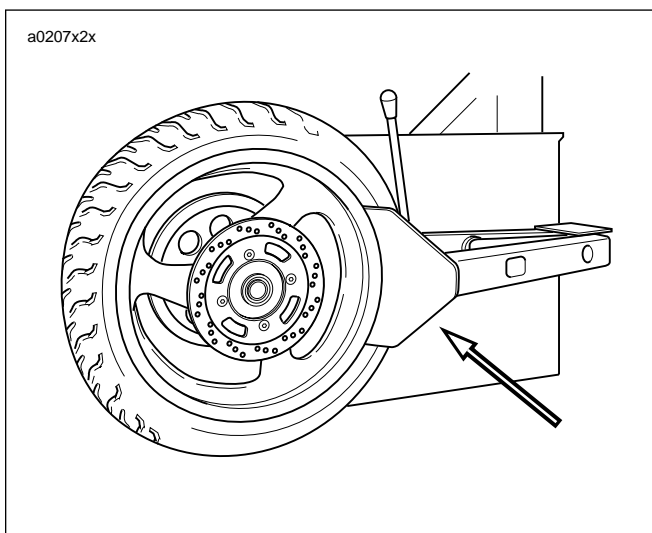

Figure 2-21. Loosening Beads from Rim Flange (Typical)
4. See Figure 2-21. Use a pneumatic bead breaker to loosen bead. Rotate wheel and apply bead breaker at several points along circumference of the rim until entire bead drops into rim well.